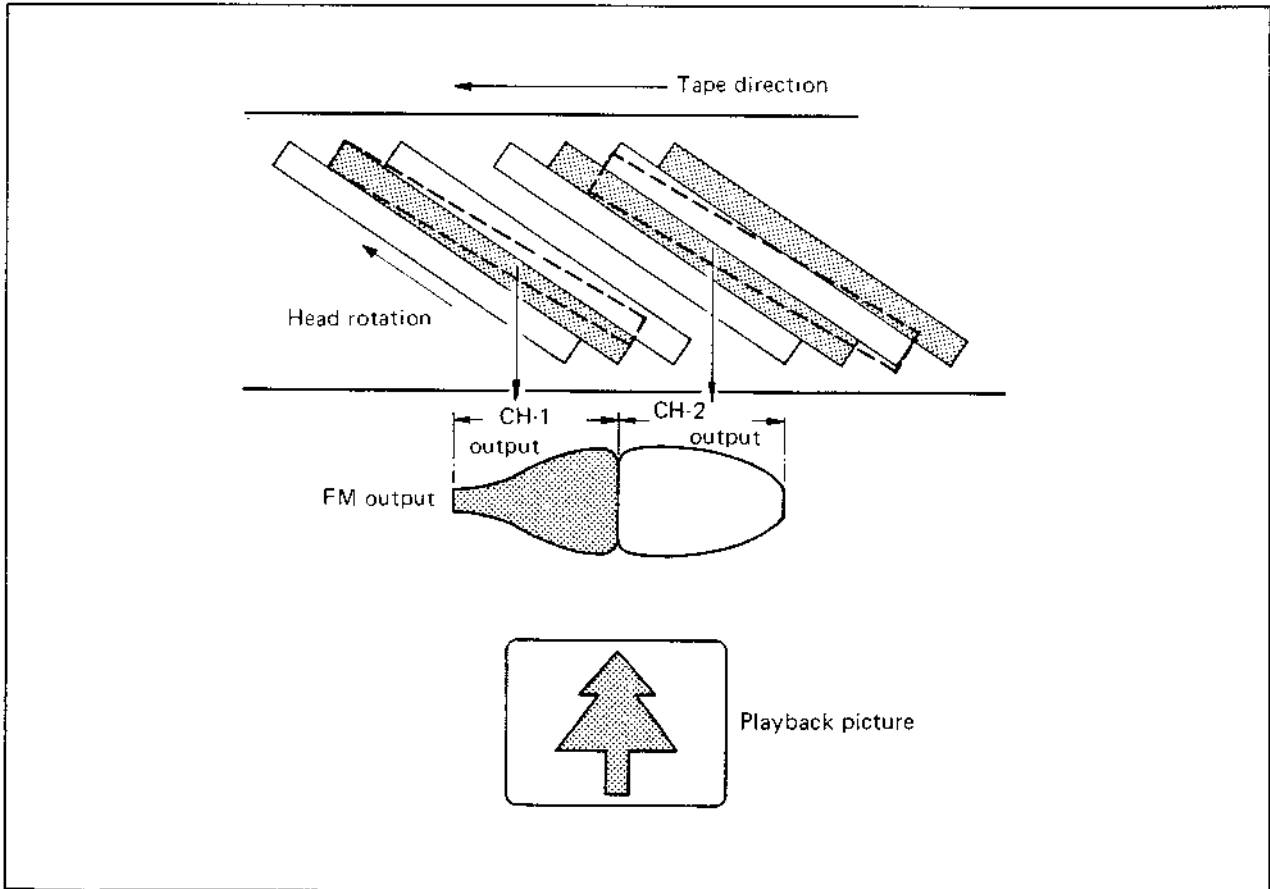

Fig. 2-3 Still playback image
A further refinement of this idea is shown in Fig. 2-3. In this, the FM output becomes larger only to the extent the CH-2 head is widened, yielding better balance between the channels.
2. As shown in Fig. 2-3, the tape stopping position is at the end point of the CH-1 head scanning. This allows CH-1 and CH-2 heads to accurately trace the recorded pattern.
4. One frame of the picture is transported at Normal speed (in practice, 1/3rd Normal). At the beginning point of CH-2 head trace, voltage is applied to the capstan motor for transporting the tape. The tape then stops at the position indicated in Fig. 2-3.